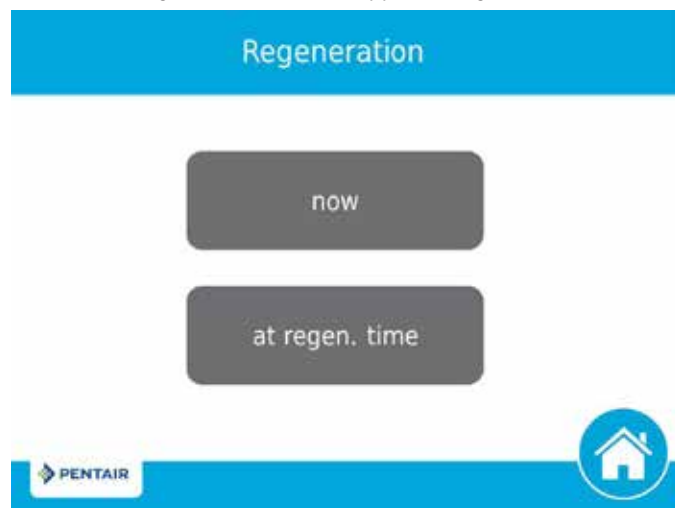

Figure 9 Regeneration Screen
6. Start a regeneration by pressing the **Regeneration** button . The Regeneration screen appears (Figure 9).